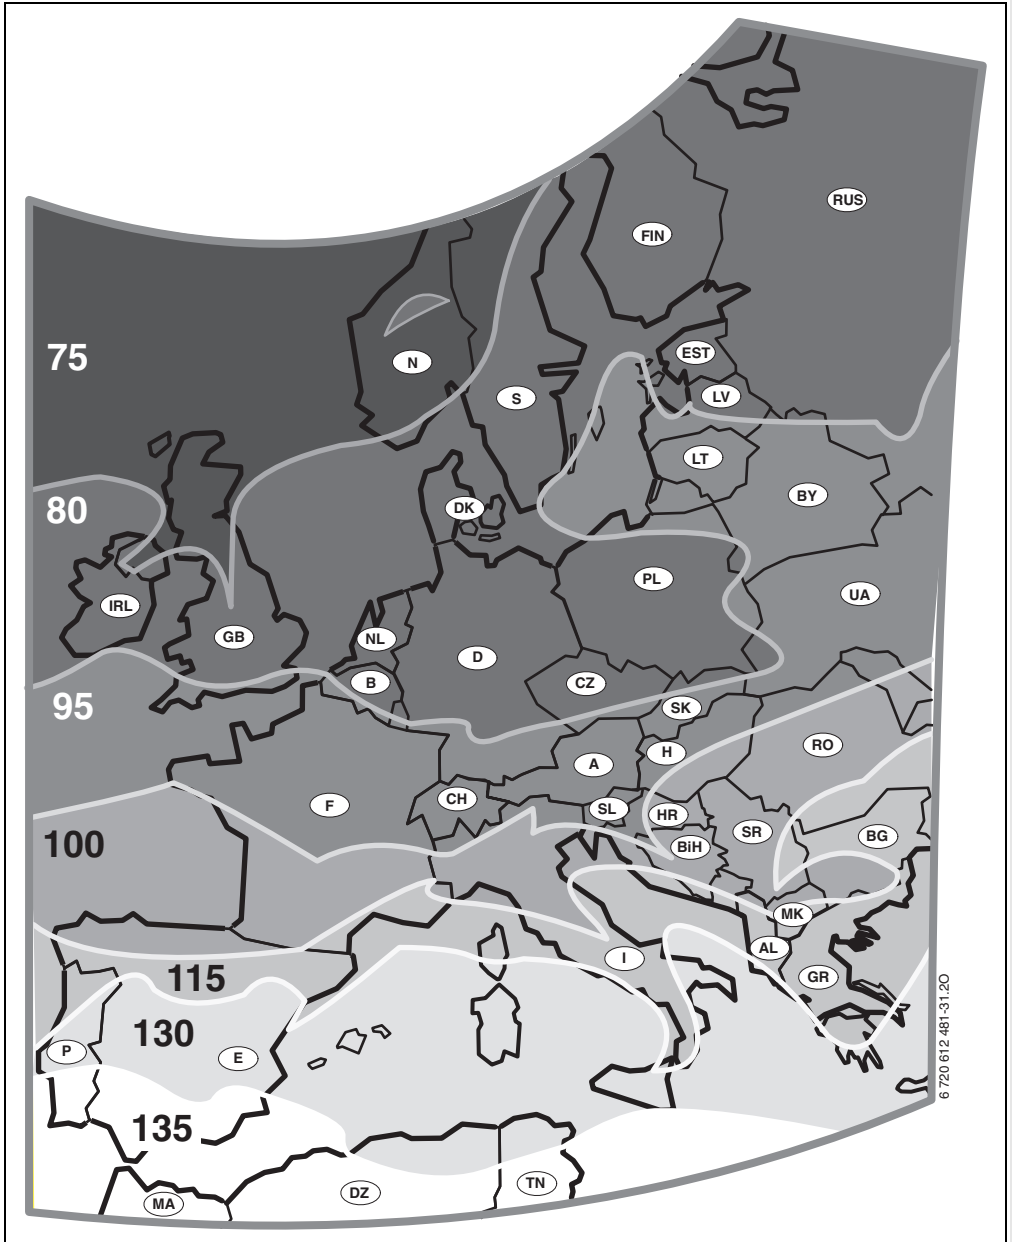

Fig. 24 Map of climate zones in Europe
- Find the location of your system on the climate zones map (→ Fig. 24) and enter the climate zone number.